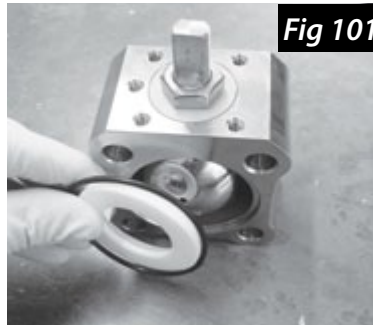

Fig 101
4. Remove and discard the Teflon® seats and body seal o-rings (Fig 101).